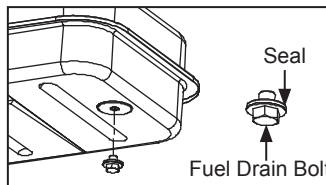

Figure 10. Drain Bolt
2. Remove fuel drain bolt from rear bottom side of fuel tank using 3/4” socket or adjustable wrench and drain. (For DFA135C/DFA180CV/DFA220CV Models Only. See Figure 10)
5. Reinstall fuel drain bolt to Fuel tank and tighten firmly using 3/4” socket or adjustable wrench. (DFA135C/DFA180CV/DFA220CV Models Only. See Figure 10)